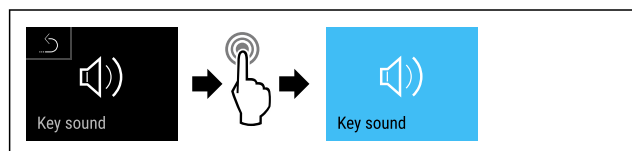

Fig. 112
- ▶ Complete steps (see Fig. 112) .